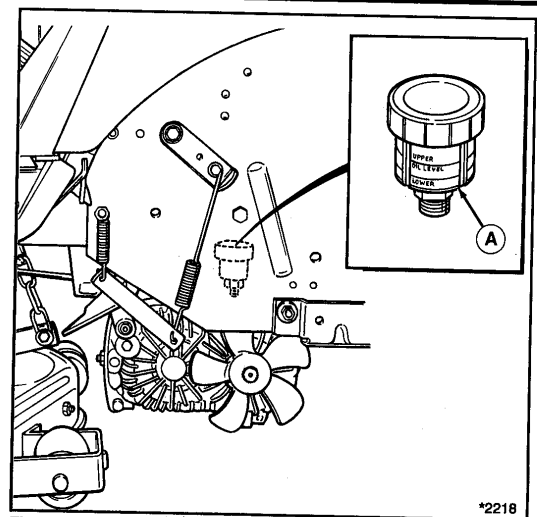

Figure 22. Hydrostatic Reservoir
2. The fluid level is visible in the reservoir (figure 22) without removing cap. The level should be between the two lines. If not, go to step 3.